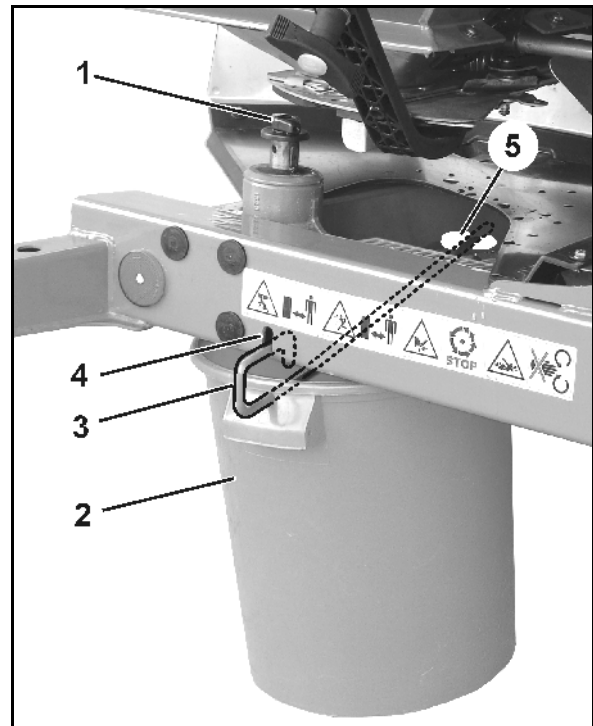

Fig. 56
- 2.1 Unscrew the thumb bolt (Fig. 56/1) securing the spreader disc and remove the spreader disc from the gearbox shaft.
3. Hook the collection bucket (Fig. 56/2) using the brackets (Fig. 56/3) into the supports (Fig. 56/4 and Fig. 56/5) on the frame.